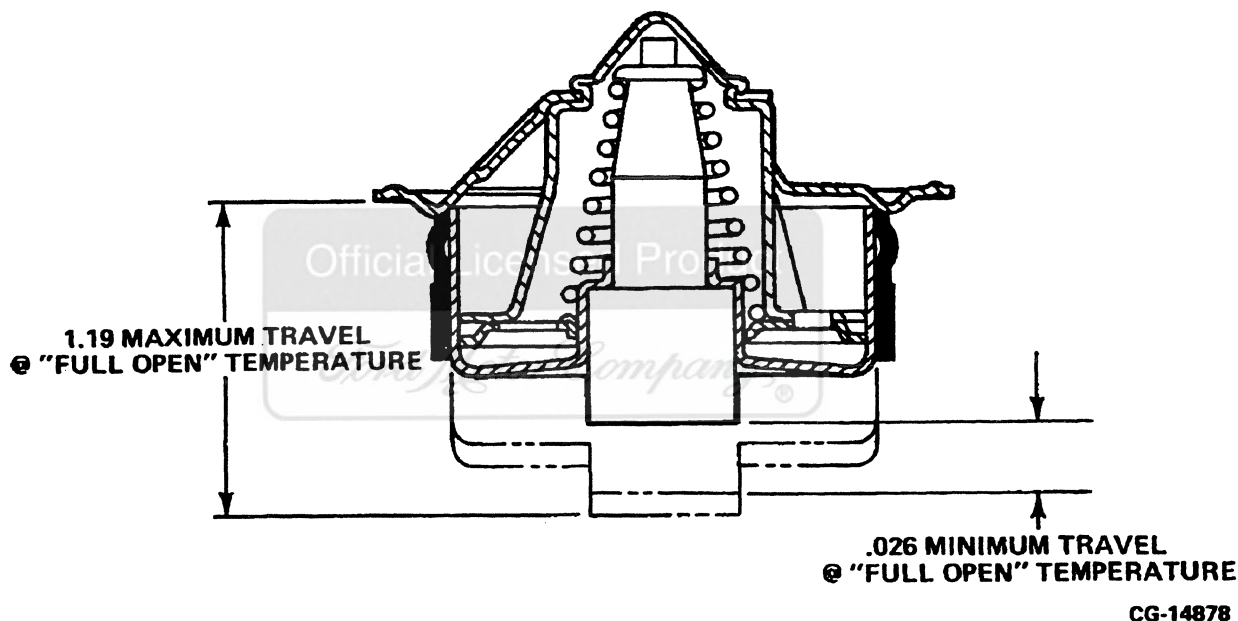

Figure 7.10. Visually Inspect Thermostat
c. Continue to heat water to "FULL-OPEN" temperature of 212°F (100°C). Observe the thermometer and movement of thermostat sleeve. Observe thermostat sleeve movement when "FULL-OPEN" temperature is achieved. Minimum sleeve travel at "FULL-OPEN" temperature is .26 inches (6.35 mm). Refer to Figure 7.10.